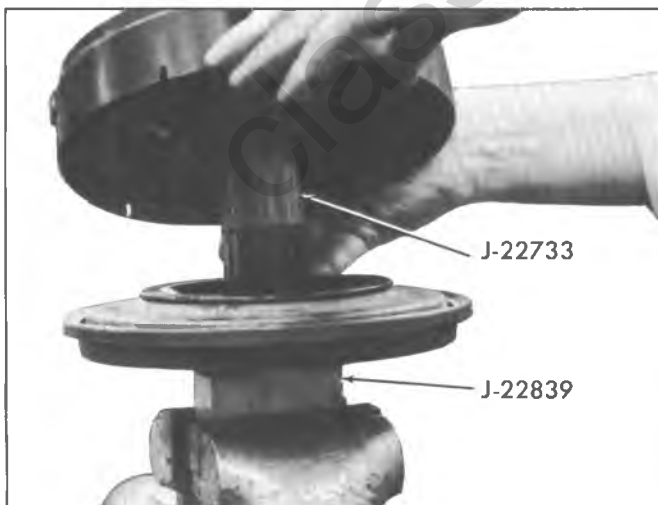

Fig. 8D--Seal Protector J-22733 Installed
5. Install Tool J-22733 over threads on front plate hub (fig. 8D).